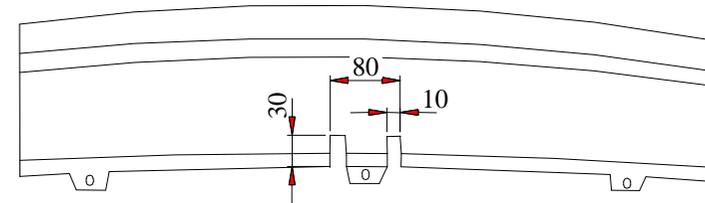

Fig. 2. Bumper cut out
6. Reassemble the bumper after cut his fragments according to figure 2.
7. Fix body of the automat (pos. 9) and the socket plate (pos. 3) using bolts M12x25mm (pos. 4) from accessories. Place tow-ball (pos. 2) according to supplied instruction.